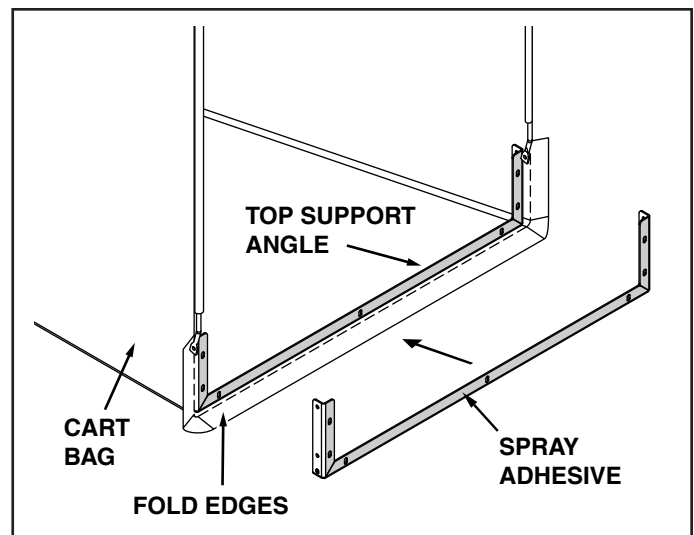

FIGURE 22
4. Apply spray adhesive to the side of the top support angle shown in grey. Follow directions on spray adhesive for proper application. See figure 22.
5. Once the spray adhesive is tacky to touch, place top support angle inside of cart cover and fold the edges of the cover onto side of support angle with spray adhesive. See figure 22.